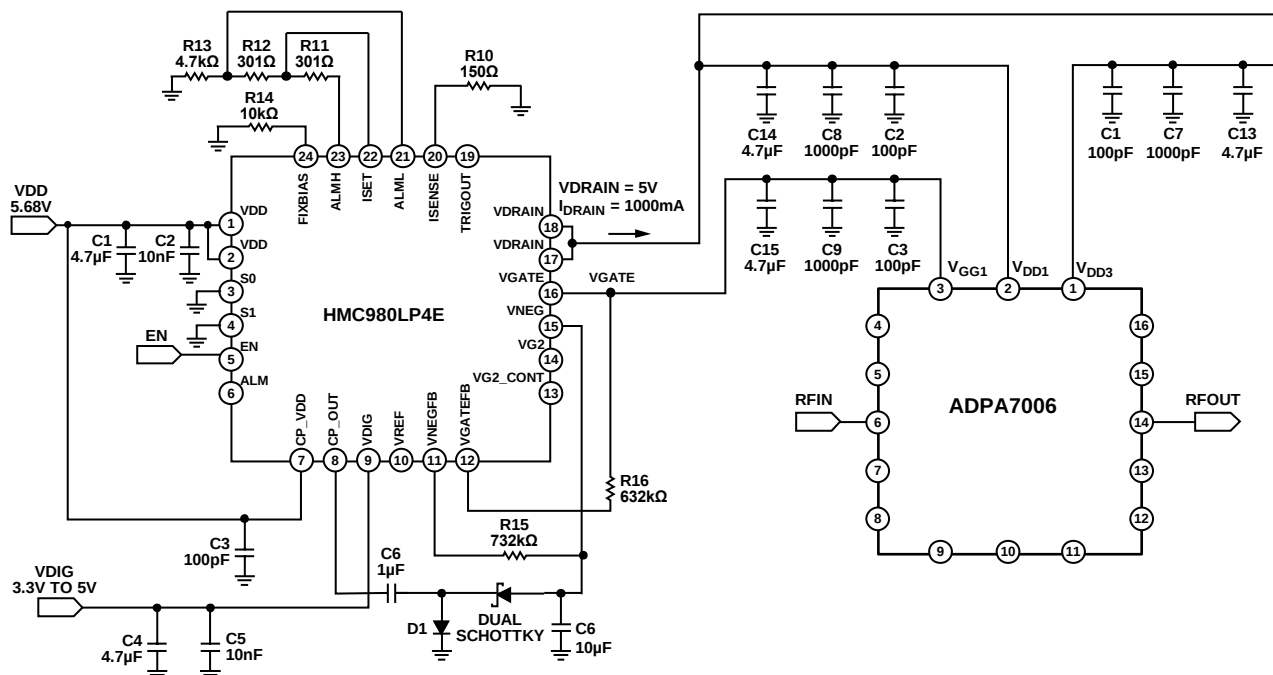
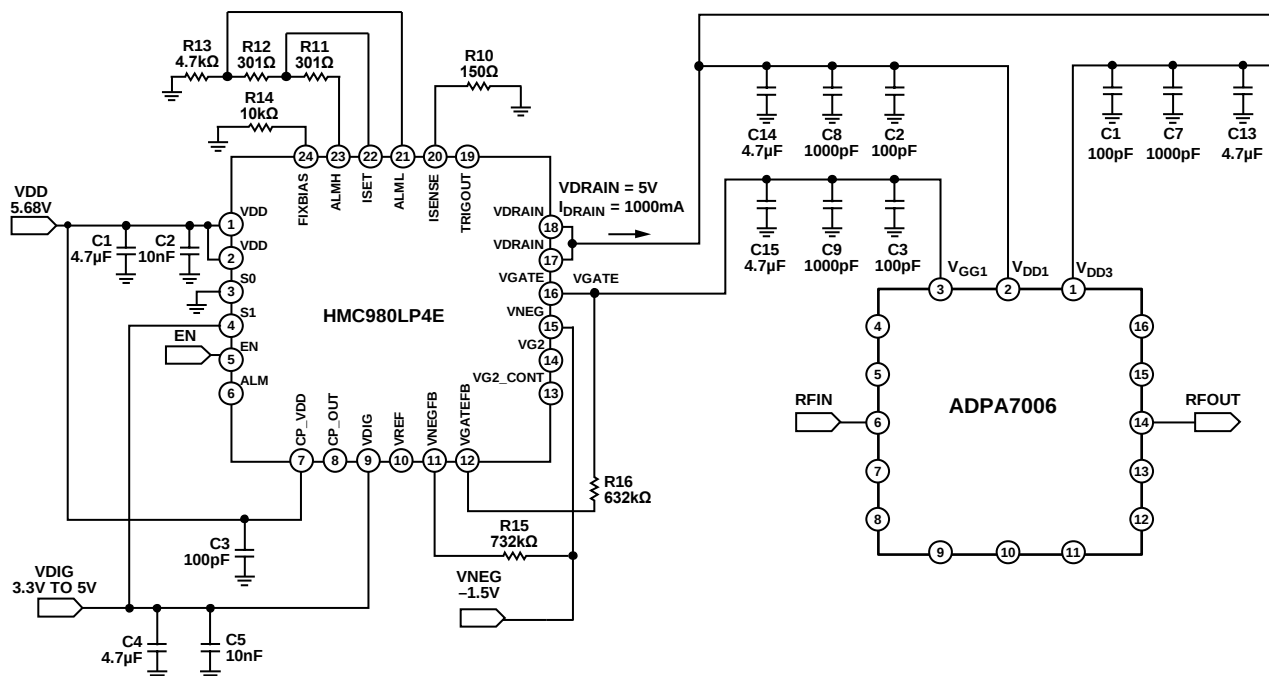

Figure 55. Application Circuit Using the **HMC980LP4E** with the ADPA7006
Figure 56. Application Circuit Using the HMC980LP4E with the ADPA7006 as an External Negative Voltage Source
When using an external negative supply for VNEG, refer to the schematic in Figure 56.
When using the ADPA7006 to control the **HMC980LP4E**, the minimum voltages for the VNEG and VGATE pins of the **HMC980LP4E** must be set to -1.5 V to keep these voltages within the absolute maximum ratings limit for the ADPA7006 V_{GG1} pin. To set the minimum voltages, set the R15 and R16 resistors to the values shown in Figure 55 and Figure 56. Refer to the **AN-1363 Application Note, Meeting Biasing Requirements of Externally Biased RF/Microwave Amplifiers with Active Bias Controllers**, for more information and calculations for R15 and R16.
1. Set VDIG, the voltage supply input (Pin 9) for the HMC980LP4E digital circuit (see Figure 56), to 3.3 V.
3. Connect S1, the digital control pin (Pin 4) that sets the internal field effect transistor (FET) and the internal HMC980LP4E resistor (R_{DS_ON}) resistance (see Figure 56), to VDIG (3.3 V).